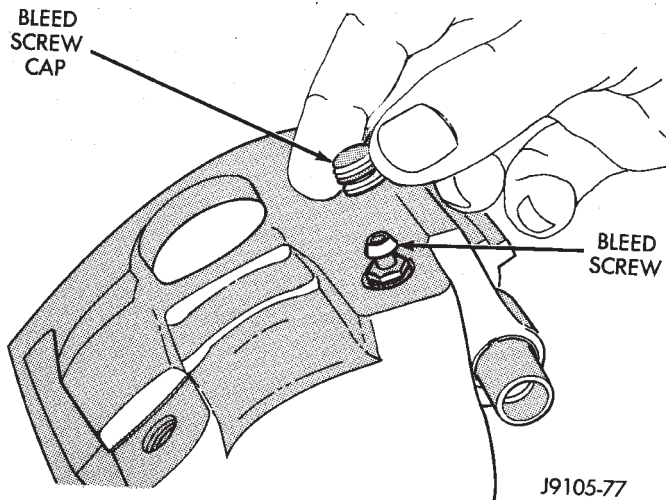

Fig. 48 Installing Caliper Bleed Screw And Cap
(10) Install caliper bleed screw and bleed screw cap if removed (Fig. 48).